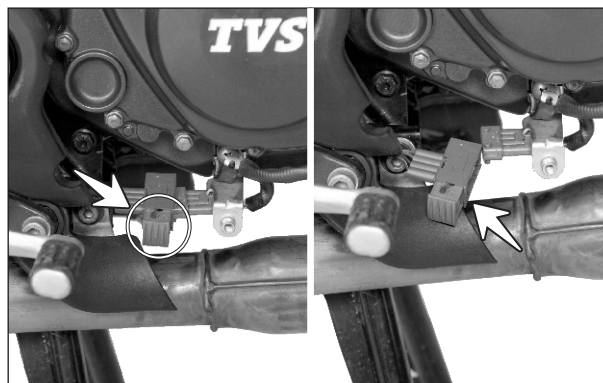

Fig. 3.31
- Pull the red color clip from the coupler and disconnect the O₂ sensor coupler from the wiring harness. (Fig. 3.31)